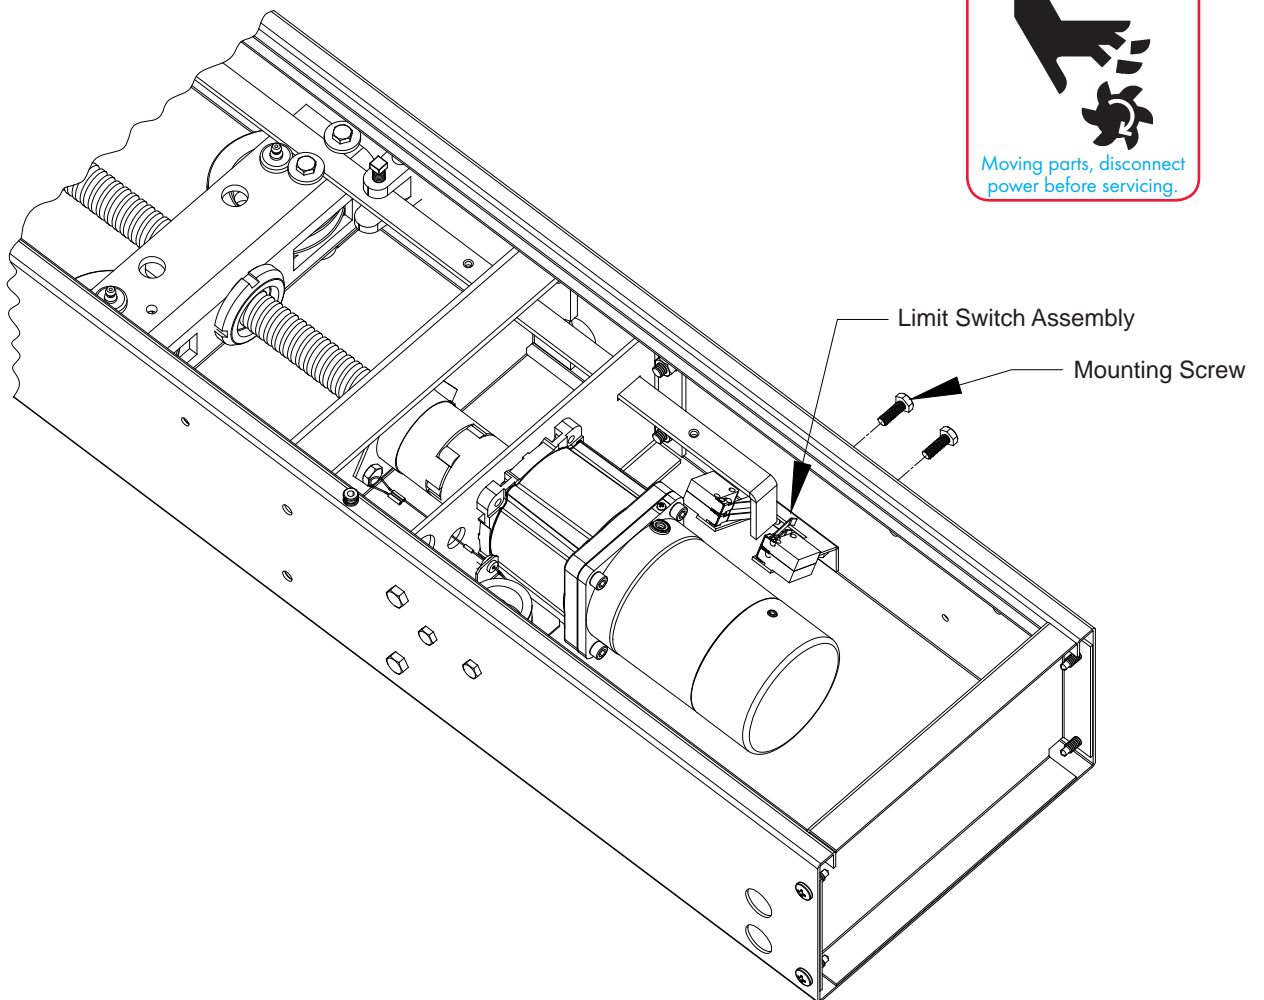

Figure 1
Remove the (2) screws holding the existing limit switch assembly in the BA4000. Remove the limit switch assembly from BA4000. *See Figure 1.*